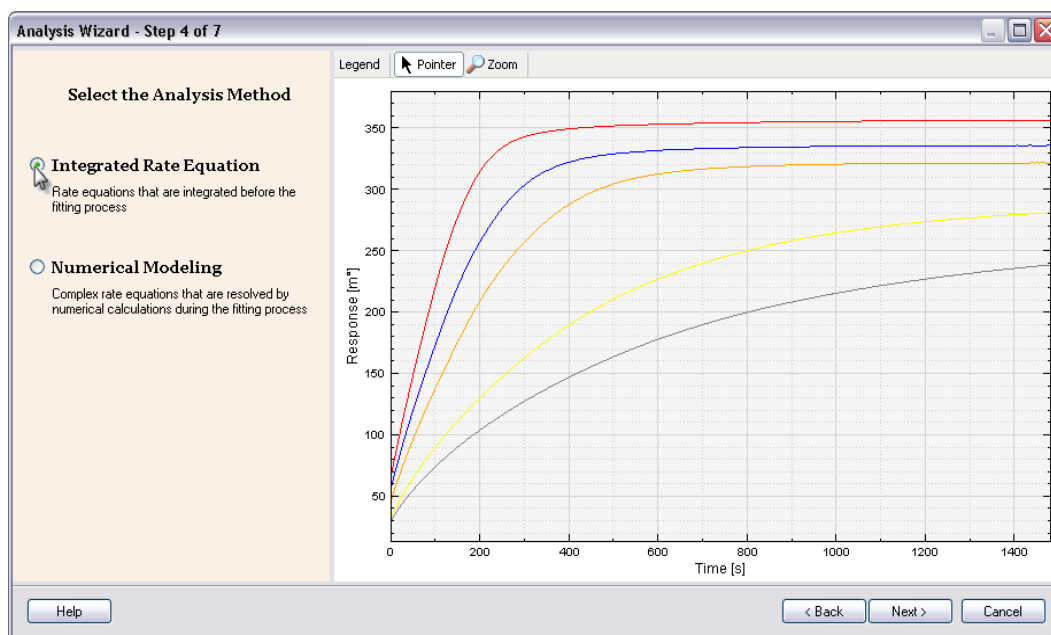

Figure 3.19 – The Graph now shows only the selected region
- e.) **Step 4 of 7** – The graph will now show only the region that was selected in the previous step (see Figure 3.19). This example will be using the **Integrated Rate Equation method**. Make sure that this option is selected and click **Next**.